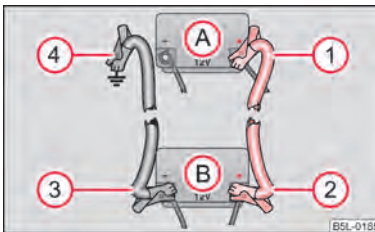

Fig. 173 Jump-starting using the battery from another vehicle: A - flat vehicle battery, B - battery providing current
- Attach one end (1) to the positive terminal ⇒ fig. 173 of the discharged battery (A).
- Attach the other end (2) to the positive terminal of the battery supplying the power (B).